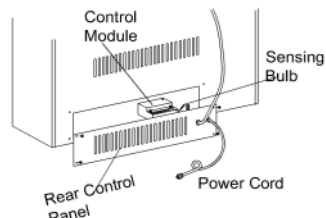

Figure 22- Control Model
2. Remove two screws and hex nuts, take out the control module. When installing, reverse the steps above. (See Figure 22 and Figure 26)